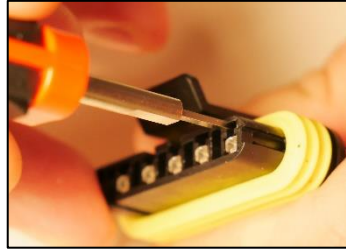
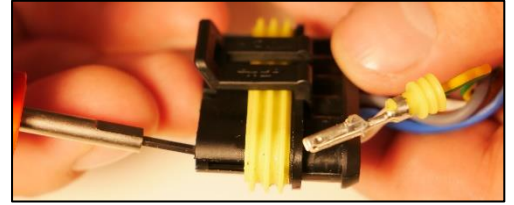

Figure 44
Figure 45
- For the socket housing, release the latches on the contact pins and pull the wires out of the back of the housing (see Fig. 44 and Fig. 45).